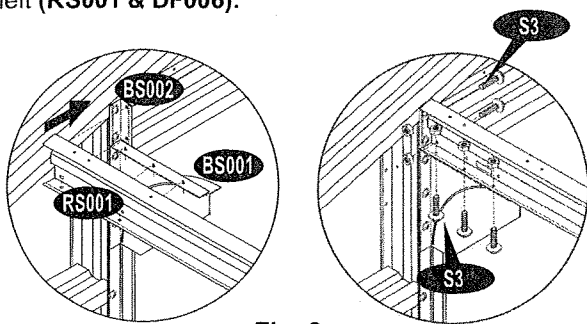

Fig. 3
10. Fix assembled roof support (RS001) with shutter door rail top right (DF007) to (BS002 & BS001) and to (BS003) on the other end. Secure all with (S3) machine screws. See fig. 3 & 4. Repeat step to fix assembled roof support to the left (RS001 & DF006).